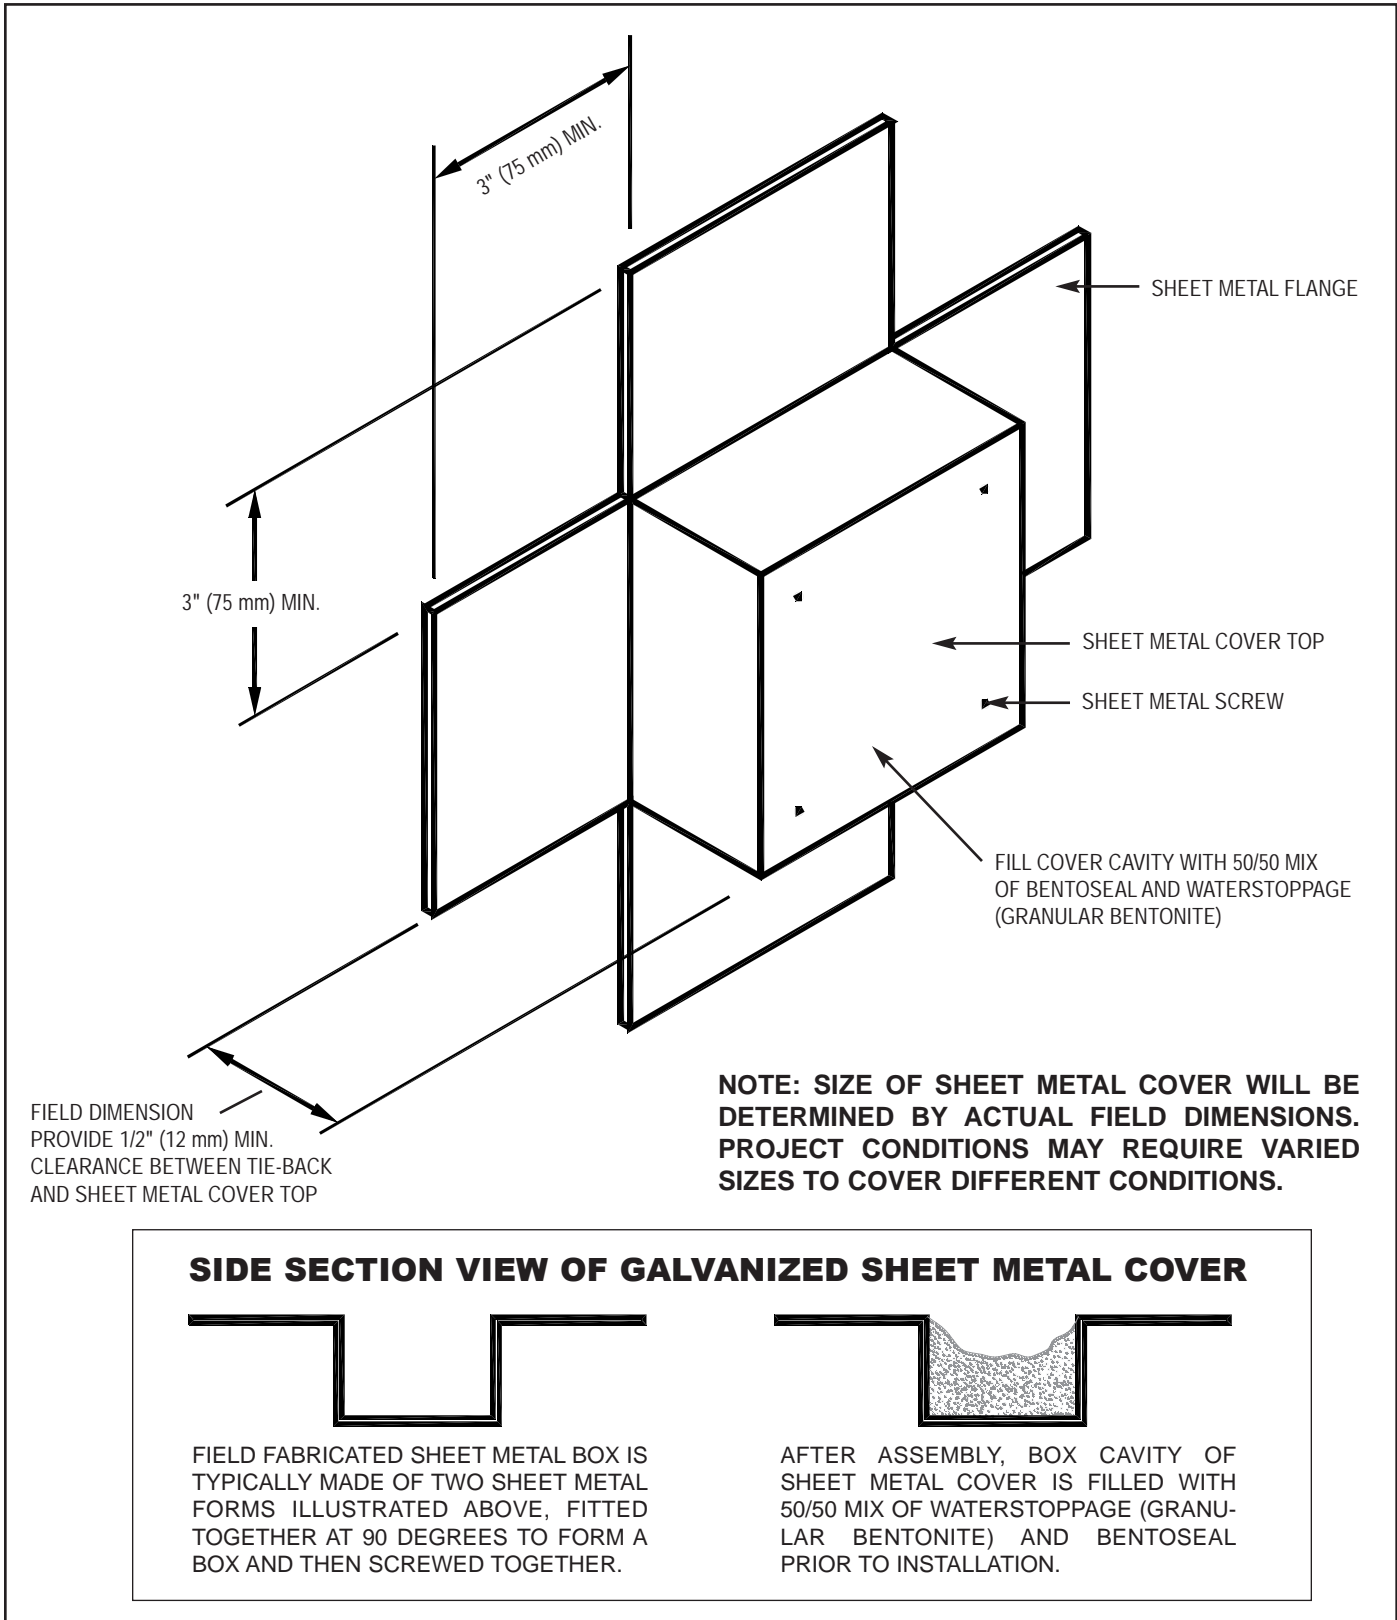

Figure 2.6 - FIELD FABRICATED SHEET METAL TIE-BACK HEAD COVERS.
**Field Fabricated Tie-Back Covers:** Depending on the shoring wall construction and size of tie-back heads, site specific field fabricated sheet metal covers (minimum 26 gauge) (Figure 2.6) may be required in lieu of Volclay TB-Boots for tie-back head covers. Field fabricated covers will need to be used over large tie-back heads and where irregular (non-planer) shoring wall conditions exist. Figure 2.6 illustrates typical sheet metal cover construction. Follow TB-Boot installation instructions above using 50/50 mix in cavity of the metal sheet cover and 12" (300 mm) Voltex section around the radius of the tie-back head cover.